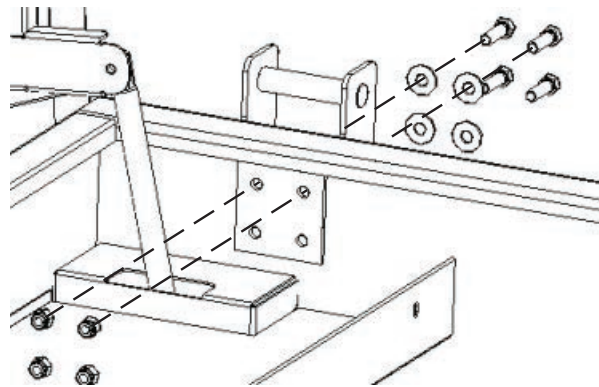

Figure 3 (Piano Box shown)
4. Mount brackets with fasteners as shown in Fig. 3, and torque to 47 Ft. Lbs. All four brackets must be used.